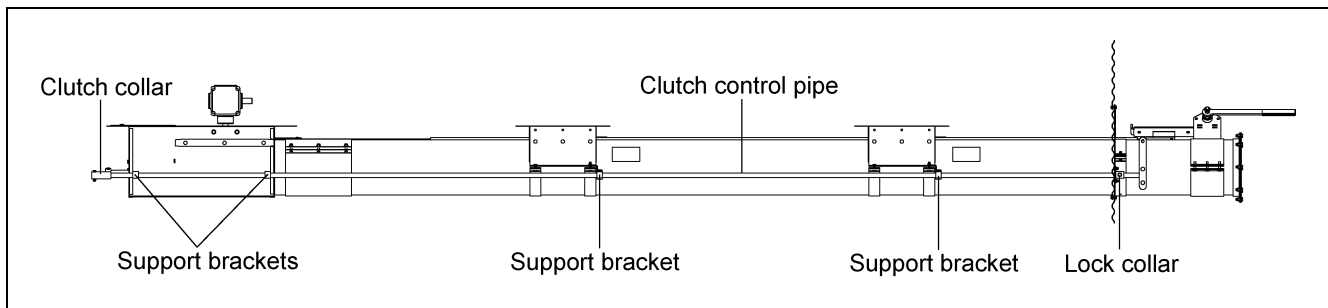
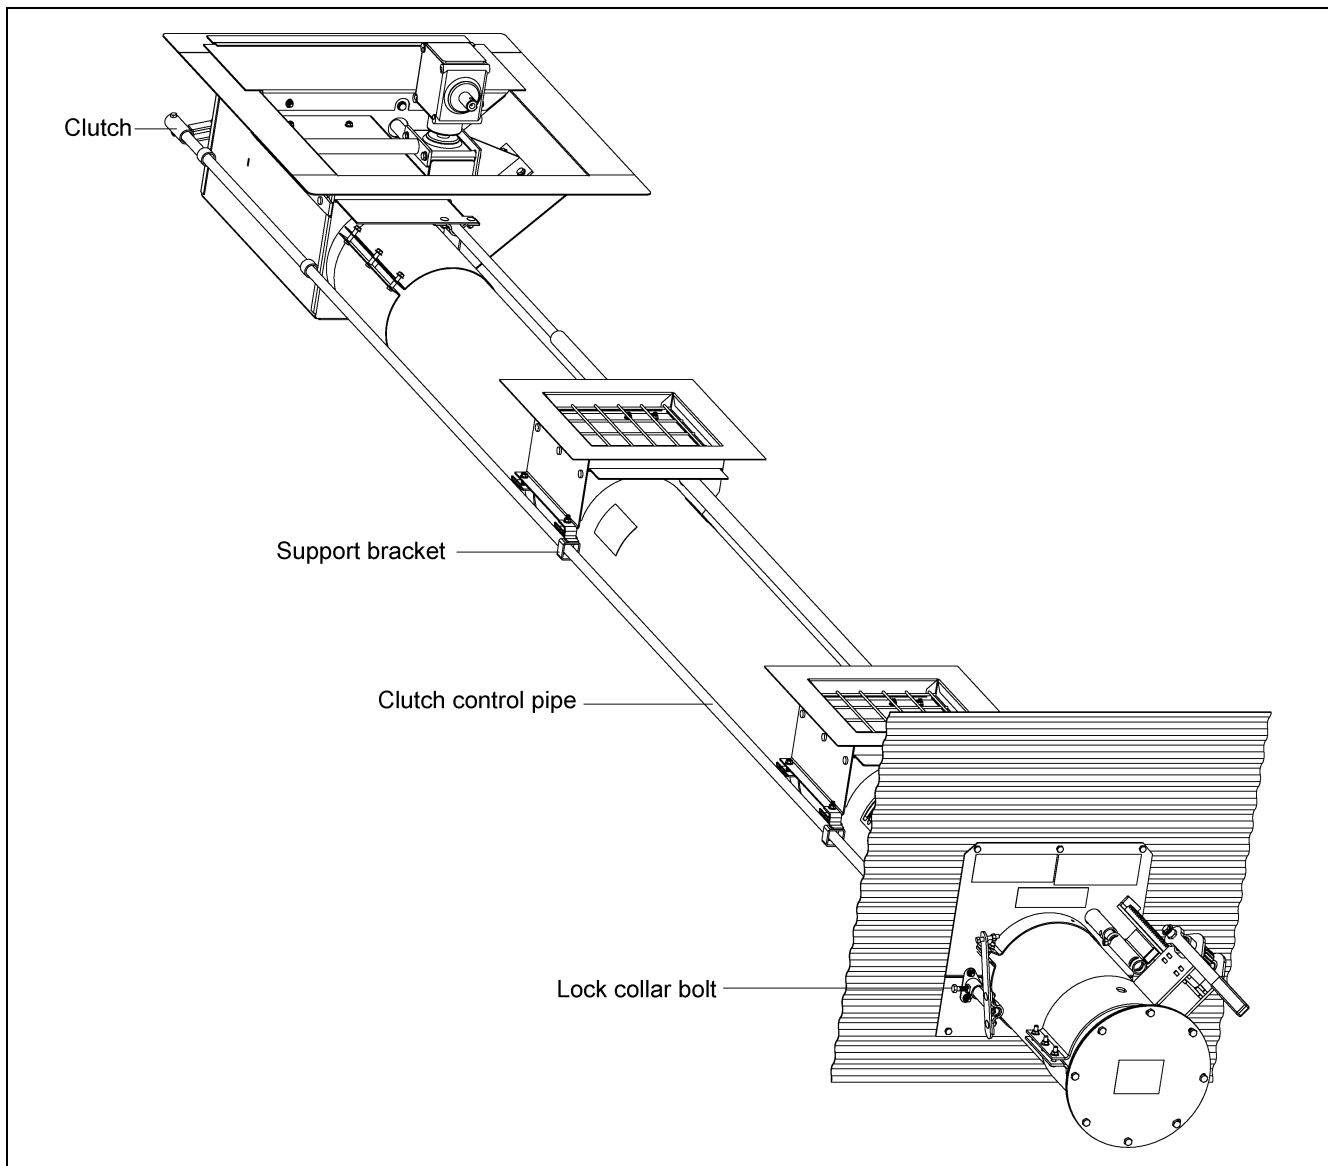

Figure 4Q
Figure 4R
1. Slide the clutch control pipe through the bin flange and the support brackets on the intermediate and center wells. Slide the clutch control pipe into clutch collar on the center well. (See Figure 4Q and Figure 4R.)